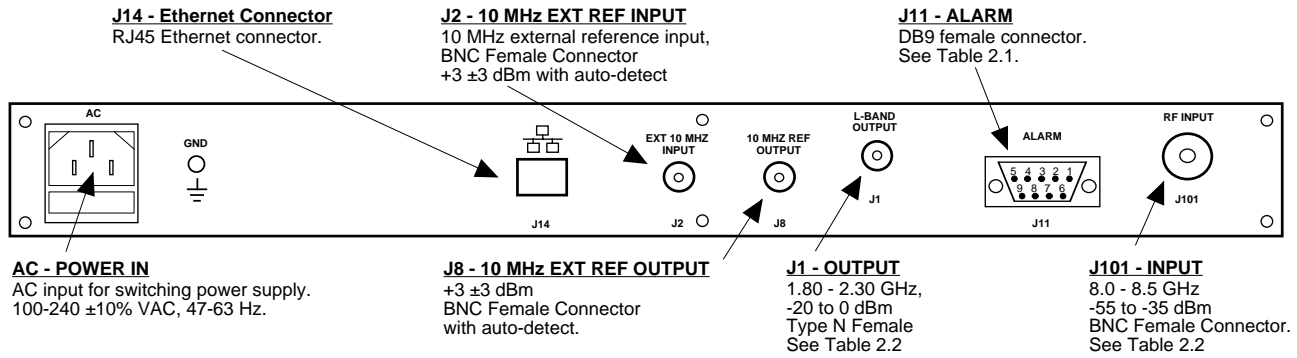

FIGURE 2.1 3116-80-2050 Rear Panel I/O's
2.2 Rear Panel Input/Output Signals - Figure 2.1 shows the input and output connectors on the rear panel.
- 1.) Connect a -55 dBm to -35 dBm signal to RF INPUT, J101 (Figure 2.1).